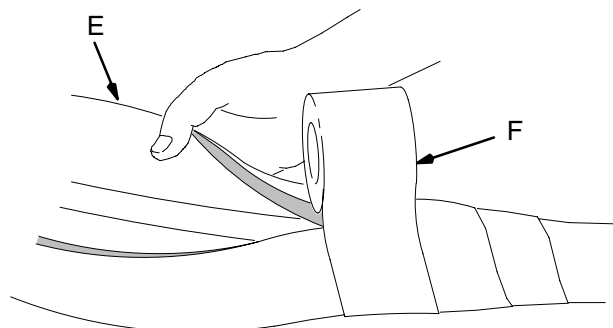

Fig. 7
- c. Wrap the insulation tubing (E) around the hose connections, overlapping at the seam. See Fig. 7. Wrap the tape (F) continuously around the tubing, beginning and ending about 2 inches (51 mm) past the slit in the insulation.